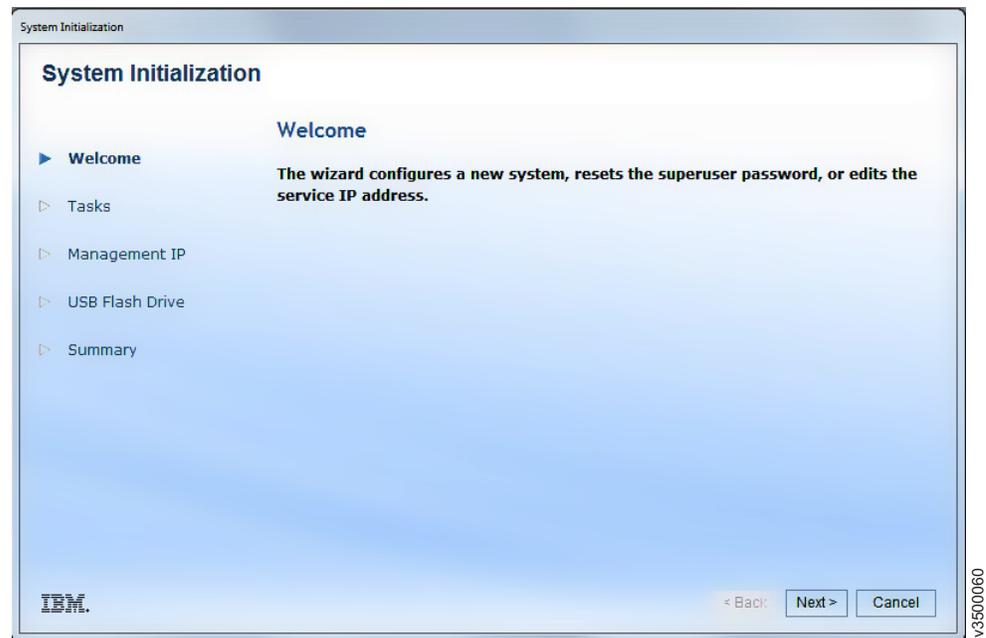

Figure 23. Initialization tool wizard
1. To launch the initialization tool, open the USB flash drive from My Computer and double-click `InitTool.app`. The initialization tool wizard starts (Figure 23).